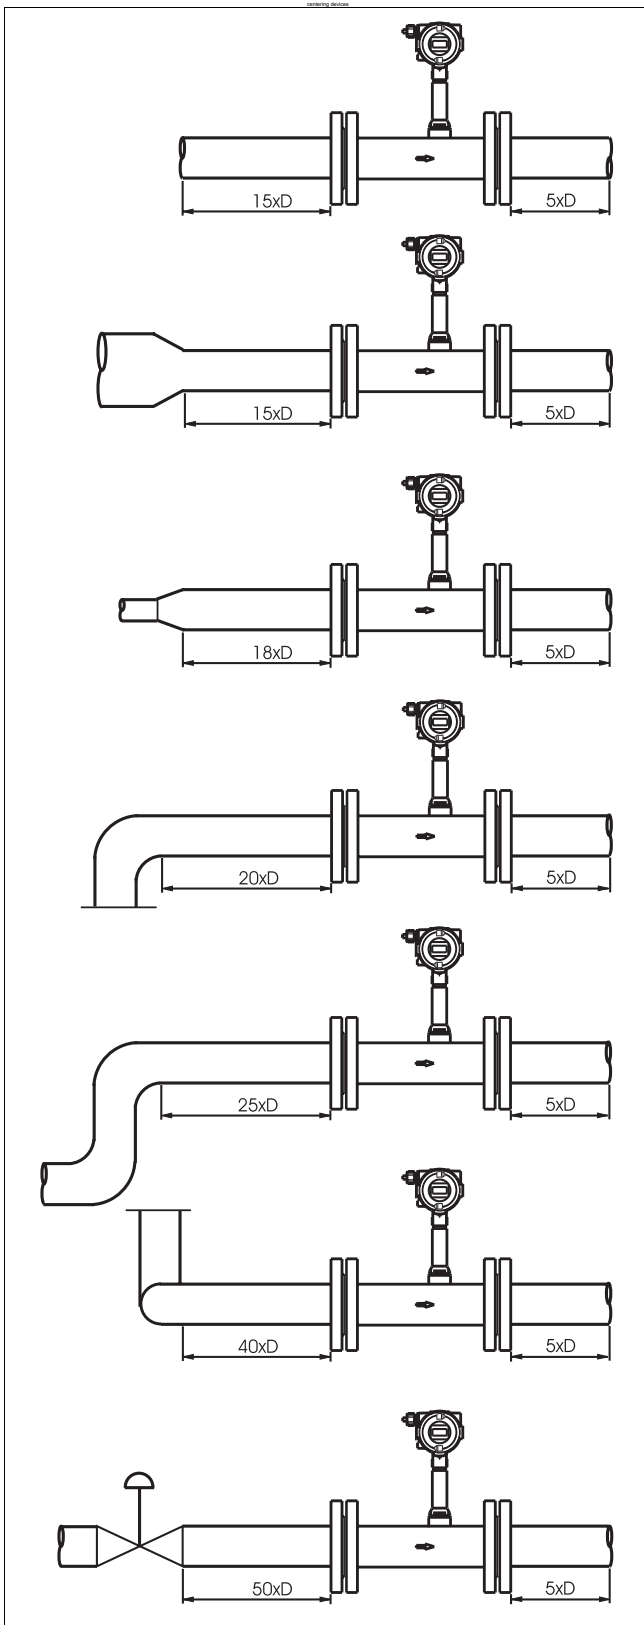

FIGURE 3-4 METER PIPING REQUIREMENTS
- * Observe the recommended inlet and outlet straight sections piping requirements (Refer to Figure 3-4).
Due to the measurement principles of the Vortex Flowmeter it can be installed with minimal inlet and outlet straight section lengths. Strainers and flow straighteners are not required. Figure 3-4 shows the recommended lengths for the inlet and outlet straight sections for various installation conditions. No inlet and outlet straight sections are required when single or double elbows are installed upstream or downstream from the flowmeter primary when the radius of the elbow is greater than $1.8 \times D$.
To assure optimum meter performance, the meter should be installed in accordance with the upstream and downstream straight run piping requirements shown in Figure 3-4. The straight run piping should be schedule 80 or lighter pipe. Process flanges should be raised face.
The wafer type meter body mounts inside the pipe flange bolt circle and ranges in size from 1/2 to 8 inches. To assure optimum meter performance, the meter should be installed in accordance with the upstream and downstream straight run piping requirements given in Figure 3-4. The straight run piping should be schedule 80 or lighter pipe. Either flat or raised face flanges may be used.